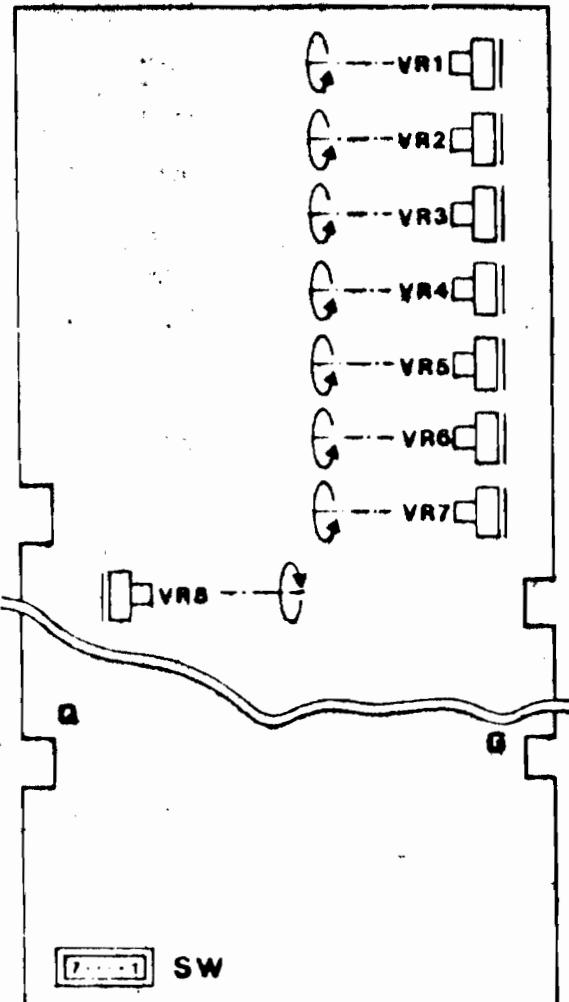

Fig. 4
7. Adjustments on Game & Sound PC Board (See Fig. 4 and Tables 1 and 2)